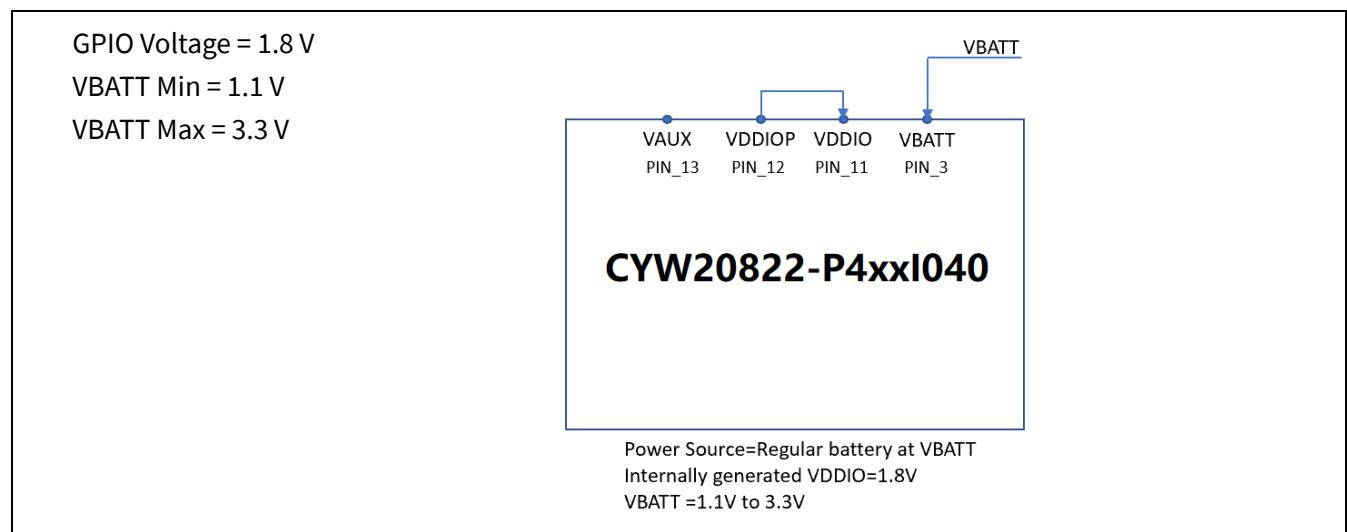

Figure 10 Regular battery, Internal I/O supply
- For applications that can use a fixed 1.8 V I/O supply for better power consumption or $VBATT \leq 1.8 V$ (see Figure 10).